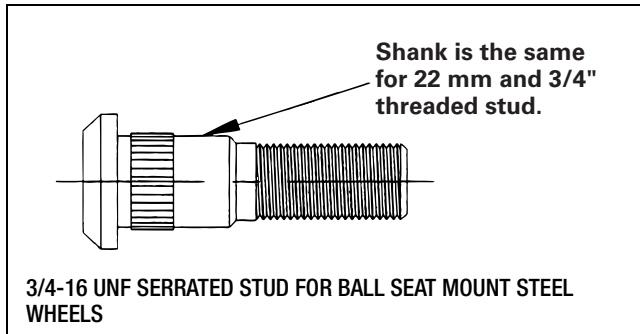

Figure 3.5
- Meritor 285.75 mm bolt circle 10 hole hubs made for hub-piloting disc wheels can be modified for stud-piloting disc wheels by changing the 22 mm studs to 0.75-inch studs. Figure 3.5 shows a stud that has the same size shank as a 22 mm stud, but the threaded portion is 0.75-inch.